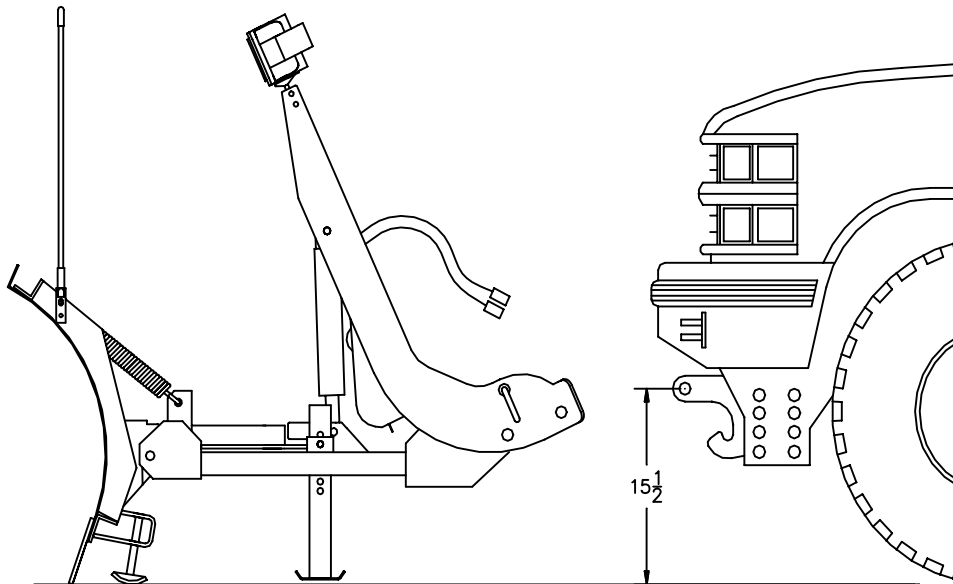

Figure 2
- NOTE: The proper height adjustment for the PUSH BEAM is approximately 15-1/2" from the ground to the center of the PUSH BEAM pin-receiving hole (See Figure 2).